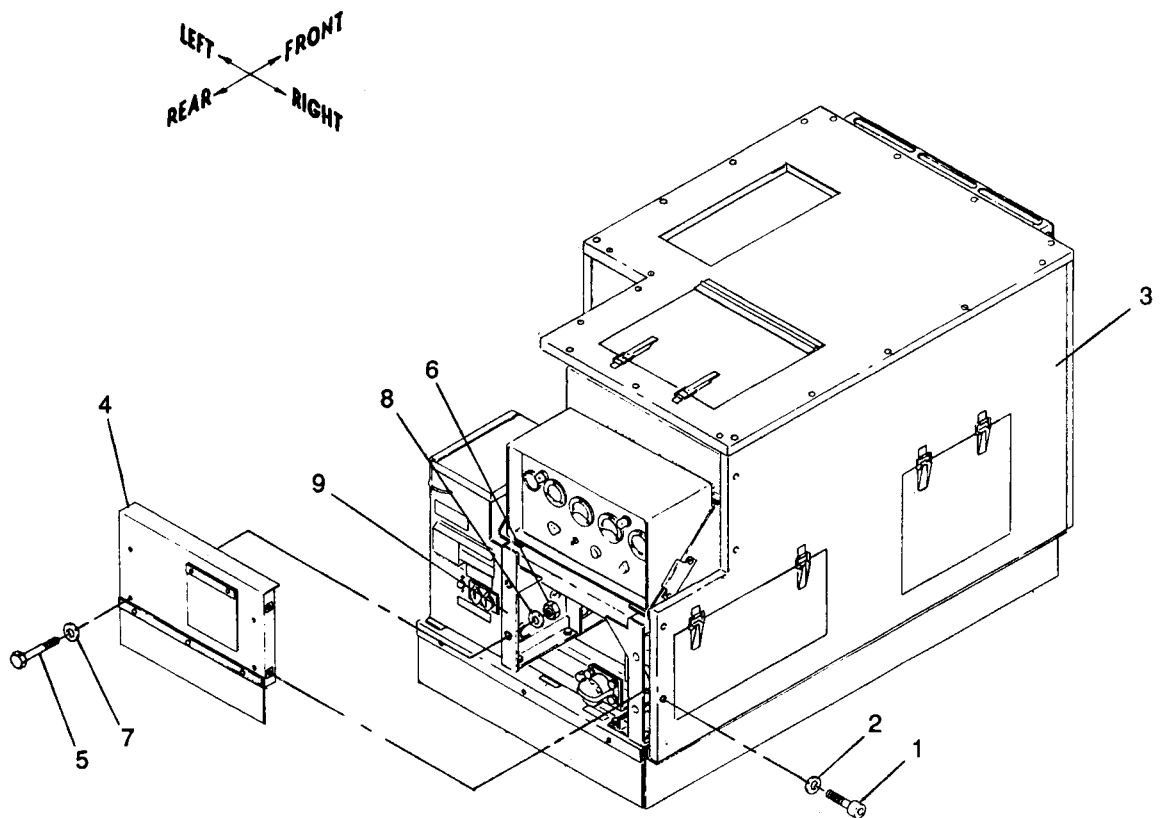

Figure 5-6. Rear Panel Assembly, Removal and Installation
a. Removal. See figure 5-6. Remove rear panel assembly from control cubicle support frame and right panel assembly as follows:
(1) Remove two screws (1) and washers (2) securing right panel assembly (3) to rear panel assembly (4) and remove rear panel assembly (4).
(2) Remove four screws (5) and locknuts (6), and eight washers (7 and 8) securing rear panel assembly (4) to control cubicle support frame (9).
b. Installation. See figure 5-6. Install rear panel assembly to control cubicle support frame and right panel assembly as follows:
(1) Position rear panel assembly (4) on control cubicle support frame (9) and install four screws (5) and locknuts (6), and eight washers (7 and 8) securing rear panel assembly (4) to control cubicle support frame (9).
(2) Torque screws (5) to 16 \pm 2 ft-lbs dry.
(1) Rear Panel Assembly (refer to figure 5-6, item 4).